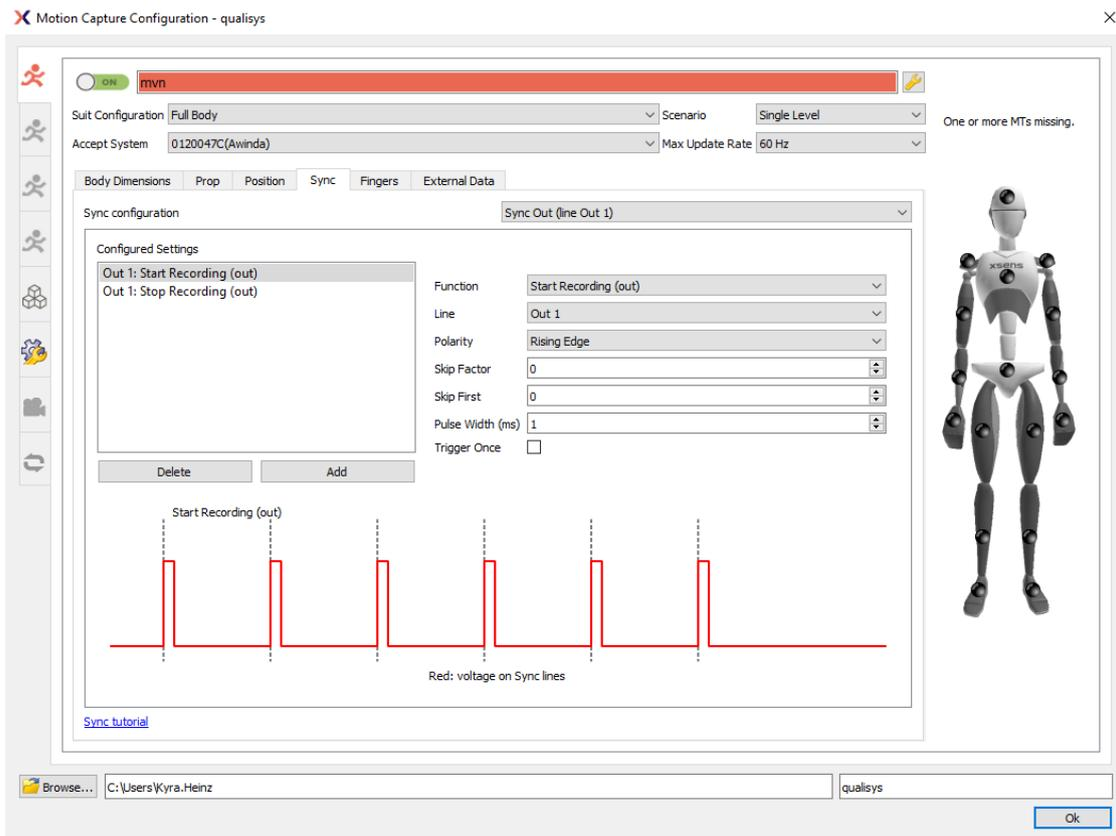
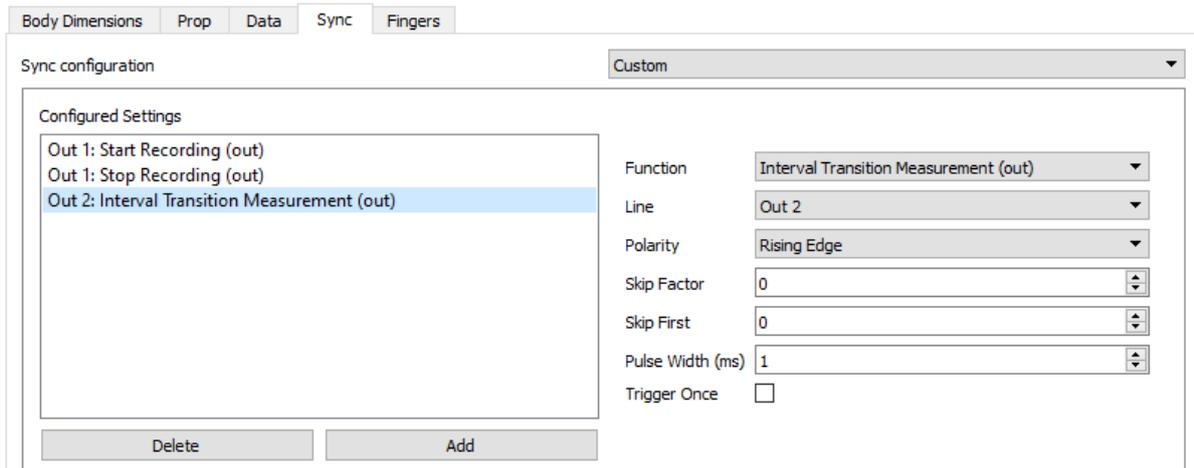

Figure 4 - Motion Capture Configuration window in MVN Analyze. Setting on the sync tab.
Figure 7 - Motion Capture Configuration window. Setting to add interval transition measurement.
3. In the synchronization tab (Figure 4) add the setting "Interval Transition Measurement". Please see Figure 7 for additional visualization.